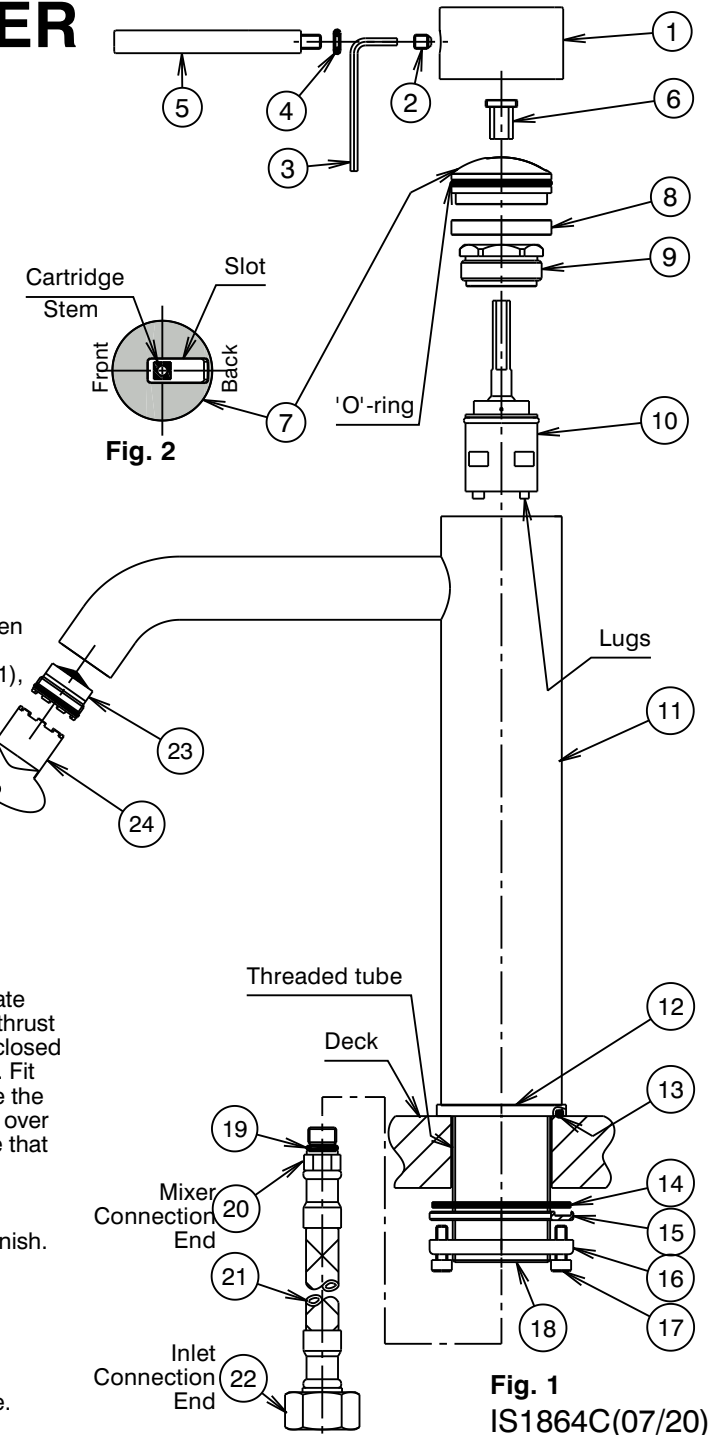

Fig. 1
- 1) From fixing pack fit 'O'ring (13) into groove in base ring (12). Slide the base ring over the threaded tube (18) & locate spigot of base ring (12) into base of mixer body (11), as shown.
- 2) **Flexible Tail Mixer Connections:** Apply suitable lubricant to 'O'rings (19). Fit flexible tail (21) (with red indication) into inlet hole marked with a Red Dot in underside of mixer body (11). Hand tighten the tail, ensuring the 'O'ring (19) has fully entered the sealing bore to provide a watertight joint. Fit other flexible tail (with blue indication) into remaining hole in a similar manner.
- 3) Insert the inlet connection end (20) of each flexible tail (21) through the hole in the deck. Fit mixer (11) into deck hole, fit washer (15) together with flat seal (14) over threaded tail of mixer as shown (Fig.1). Screw clamp ring (16) onto threaded tube until it contacts washer (15) & the flat seal (14) has contacted the underside of the deck. Tighten two screws (17) using a 3mm allen key until mixer assembly is clamped firmly to the deck. DO NOT OVERTIGHTEN.
- 4) **Flexible Tail Inlet Connections:** Connect the flexible tails (21) to the hot and cold isolating stop taps, hand tighten the fixing nut (22) until rubber cone contacts the sealing face of the connection end, then tighten a further one turn to provide a watertight joint. **Important:** Flexible tails must not be kinked, twisted or in tension when installed. (Minimum Bend Radius:- 50mm) Do not install flexible tails where subject to ultra violet light.